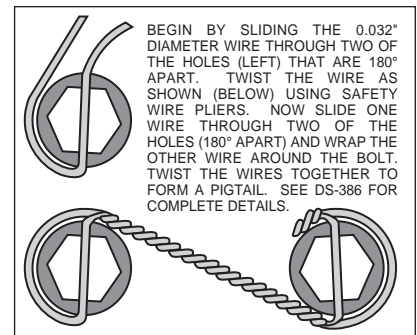
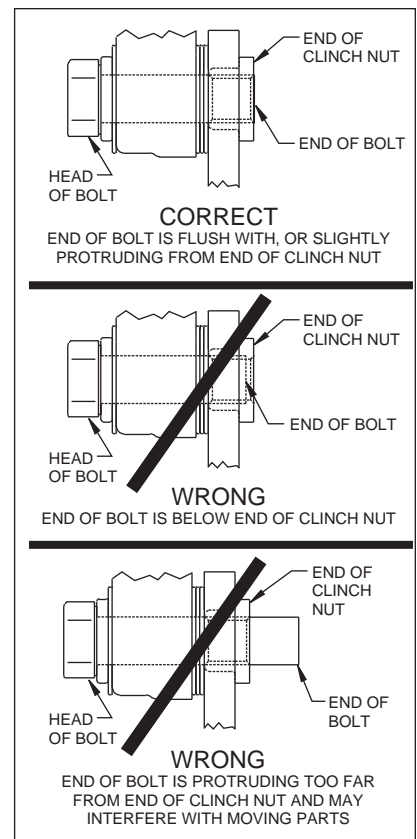

Figure 4. Safety Wire Diagram
Figure 5.
(numbers in parenthesis refer to the part list/diagram on the preceding page): **CAUTION:** All mounting bolts must fully engage insert nuts. Be sure to check that all bolts are either flush or protruding through flanged side of insert nut after shimming, Figure 5.
- Bolt the hat (2) to the rotor (3) using washers (4) and bolts (5). Torque bolts (5) to 180 in-lb. Safety wire bolts (5) using standard 0.032 inch diameter stainless steel safety wire as shown in Figure 4. Please refer to Wilwood's data sheet DS-386 (available at www.wilwood.com/Pdf/DataSheets/ds386.pdf) for complete safety wire installation instructions.
- Align the correct hole pattern in the hat (2) with the stud pattern on the axle flange. **NOTE:** Some OEM and after market axles come with stud sizes larger than 0.50" diameter. Verify stud size and have a qualified machine shop drill the hats to the correct size. Slide the hat/rotor assembly (2 and 3) over the wheel studs and against the axle flange face.
- NOTE:** Please reference the caution statement at the beginning of the assembly instructions. WITH THE BLEED SCREWS POINTING UP, mount the caliper (6) over the rotor (3) and onto the caliper mounting bracket (1) using washers (7) and mounting bolts (8). View the rotor through the top opening of the caliper. The rotor should be aligned in the center of the caliper. If not, adjust the caliper by using 0.032 inch shim washers (9), placing them between the caliper mounting bracket (1) and the caliper (6). Add as many shim washers (9) as necessary to achieve the correct alignment. **NOTE:** The end of the bolt must be flush with or slightly protruding from the head of the clinch nut. See Figure 5. Place spare shims (9) between washer and caliper mounting ear to achieve the proper mounting fastener configuration. Always use the same amount of shims on both the top and bottom caliper mounting bolts (8). Apply red *Loctite*® 271 to the mounting bolt threads (8), torque bolts to 30 ft-lb. Safety wire the caliper mounting bolts (8).
- Position the Wilwood disc brake pads (10) into the caliper (6) and fasten with cotter pin (11). Steel backing plate side of brake pad should face the caliper pistons.